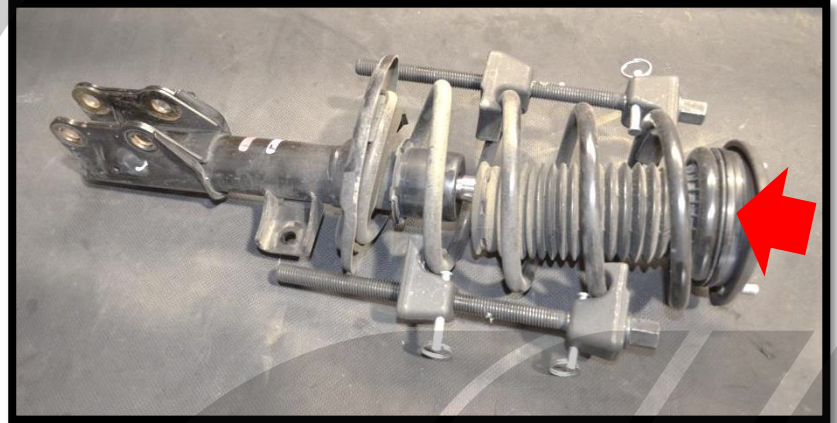

Figure 3a
- a) Use a spring compressor to compress the spring until it is no longer tight against the upper mount (Figure 3a).
- a) Use a spring compressor to compress the spring (evenly on both sides) until it is no longer tight against the upper mount (red arrow in Figure 3a).